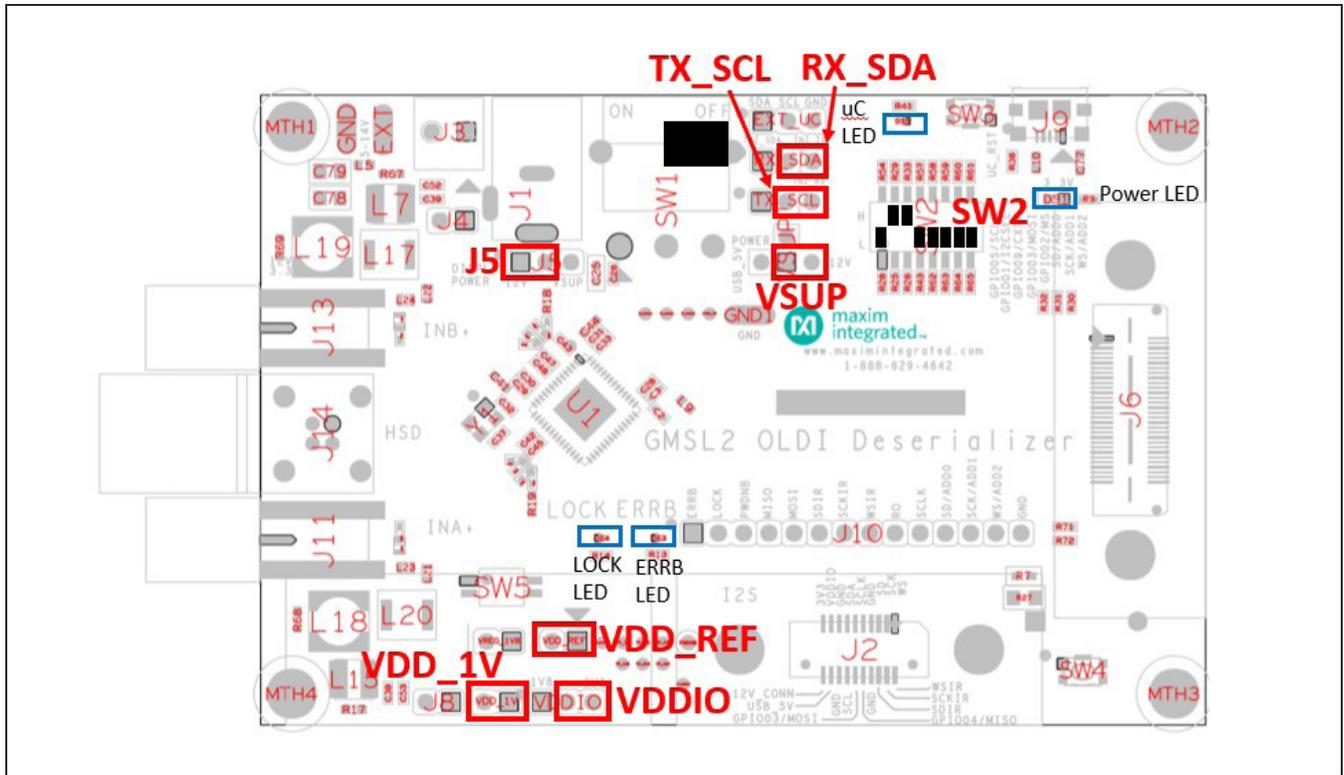

Figure 3. Deserializer Evaluation Board Default Jumper and Switch Positions
- 2) Verify that the on-board jumpers on the deserializer board are in their default positions (Figure 3) with SW1 off.
- 3) Configure SW2 as shown in Figure 3 to set deserializer address to 0x90, COAX mode, and I2C control.